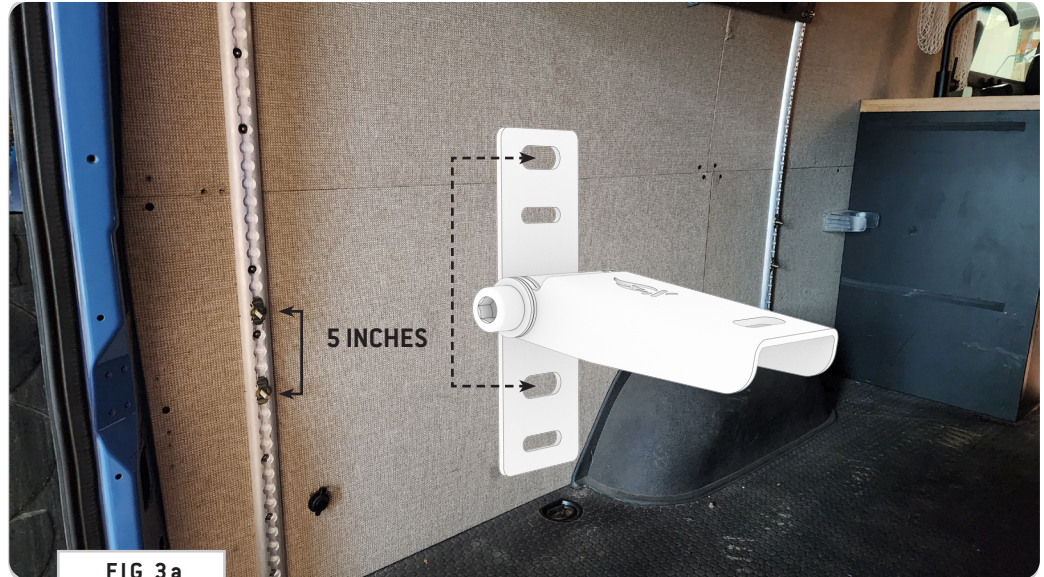

FIG 3a
1.1a Determine Install Height: Dry fit Hinge Assemblies to your L-Track and determine the desired install height of your Solo Bed (FIG 3a).